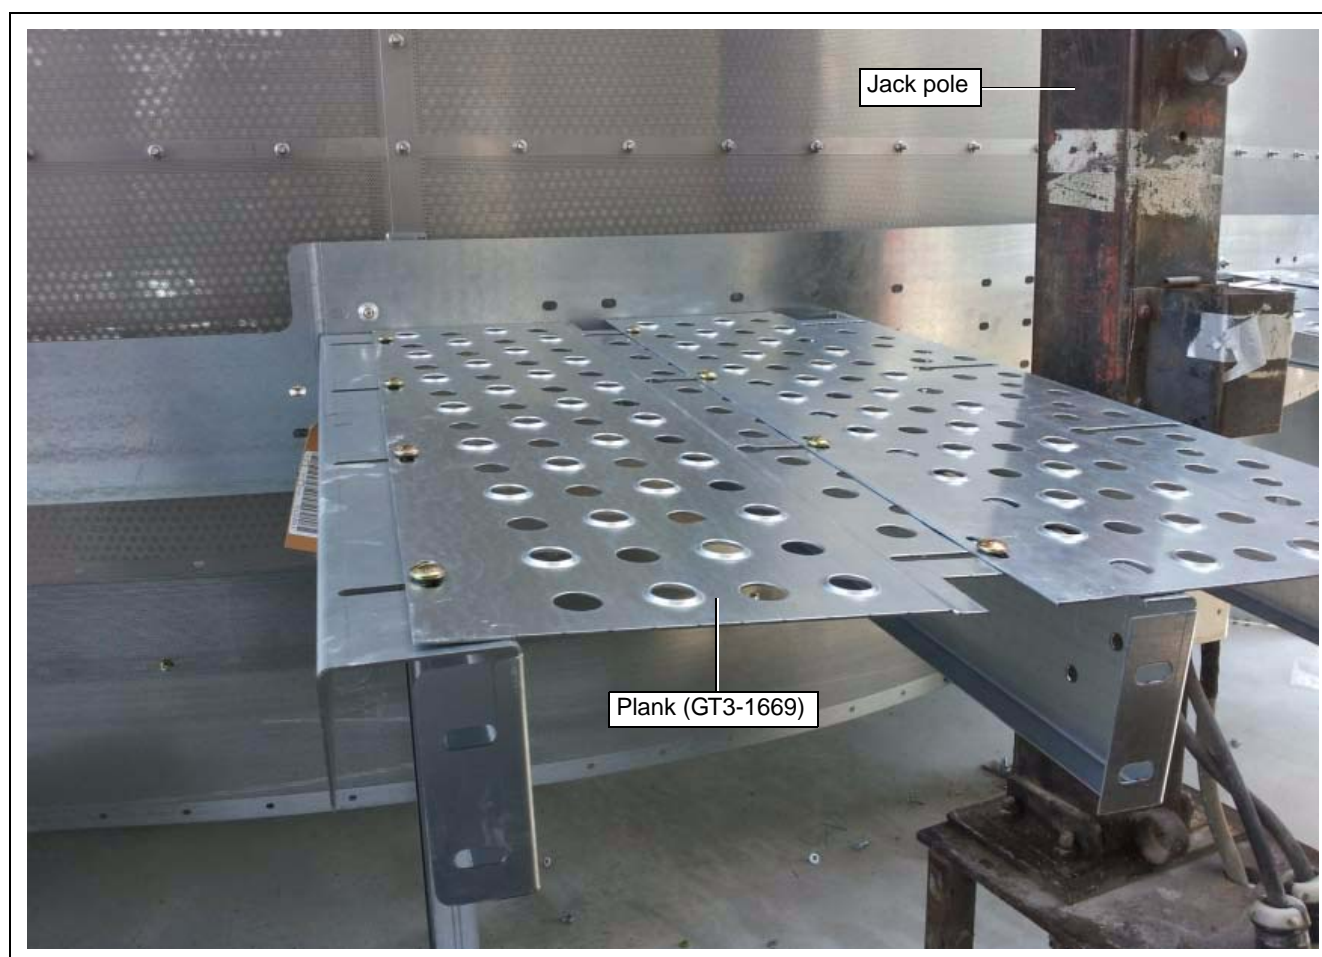

Figure 6O
3. Install all the planks (GT3-1669) continuously around the dryer except at the jack pole locations. (See Figure 6O.)